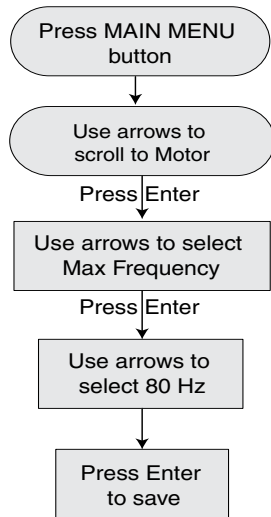

Figure 11 - Select 80 Hz (3-phase operation only).
- B. Follow the keypress sequence shown in Figure 11.
Press Main Menu and follow the keypress sequence shown in Figure 11. Be sure to press ENTER to save the new Max Frequency selected. The Drive will now use the new value selected.